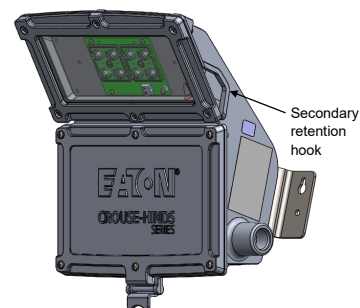

Figure 3
- Two attachment points for secondary retention are provided, see Figure 3. Either loop secondary retention cable through the attachment or clip on the carabiner provided with SC831 accessory kit.